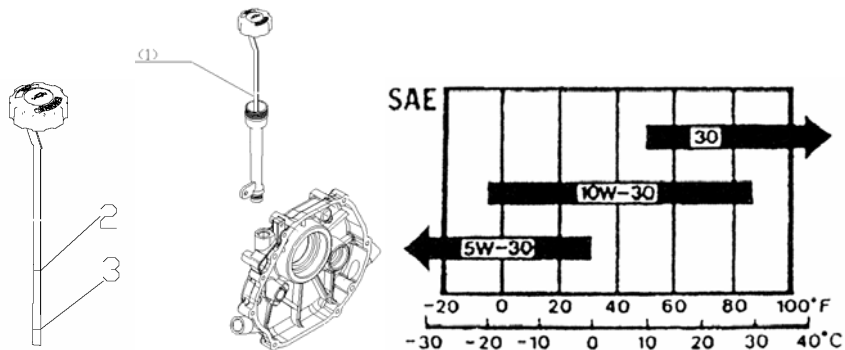

Figure 5-1
- b. Insert the dipstick into oil filler neck as shown in figure 5-1, but do not screw it in, then remove it out and check oil level.